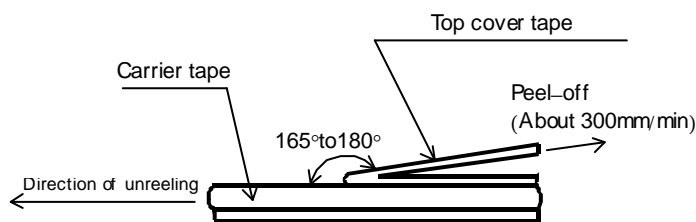

Figure-5
- 5). The peel strength of the top cover tape shall be within 0.1N to 0.5N on the test method as shown in the following Figure-5.